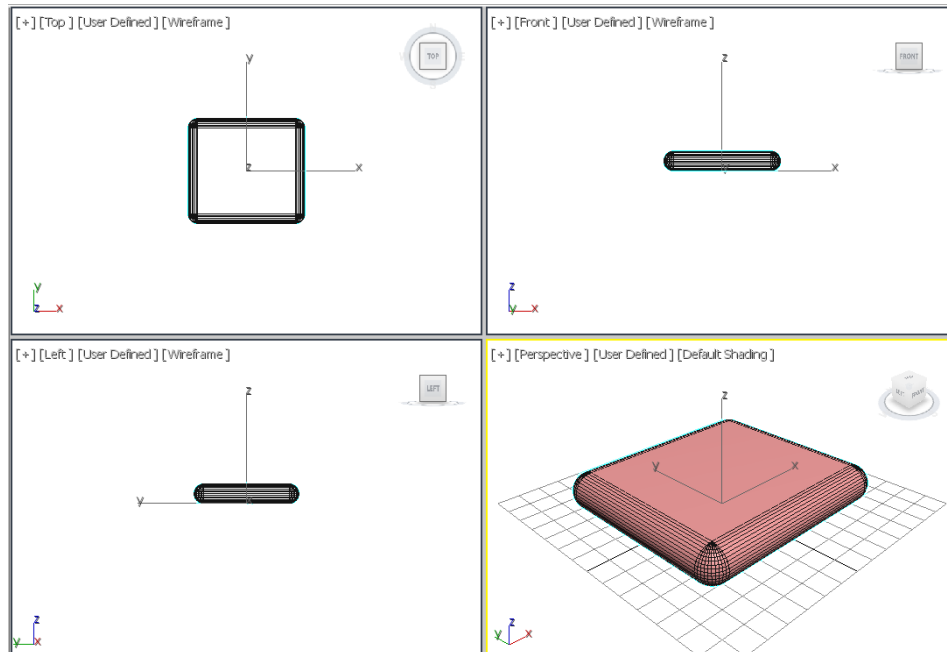

Figure 3-29 The chamfer box created for seat support of the chair
4. Make sure the chamfer box is selected. In the **Parameters** rollout, set the value **10** in the **Fillet Segs** spinner; the chamfer box is modified, as shown in Figure 3-29.